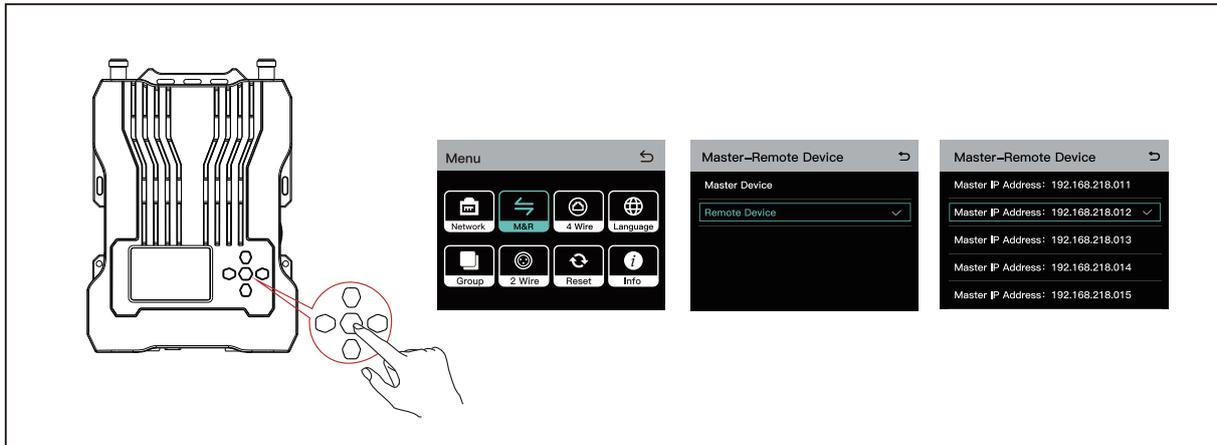

Figure 3
3. Enter the menu interface on base station A, select **Master-Remote Device > Remote Device**, press the menu/confirmation button, and select the IP address of the corresponding master device. (See Figure 3)
7. Enter the menu interface on base station D, select **Master-Remote Device > Remote Device**, press the menu/confirmation button, and select the IP address of the corresponding master device. (See Figure 3)